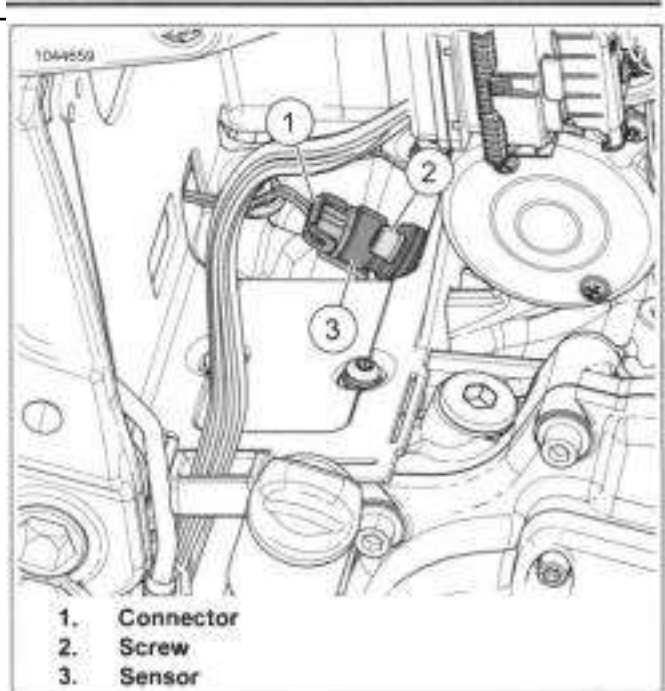

Figure 7-137. Vehicle Speed Sensor
1. See Figure 7-137. Disconnect connector (1).
- a. Remove screw (2).
- b. Remove VSS (3).
1. See Figure 7-137. Install VSS.
- a. Install VSS (3).
- b. Install screw (2). Tighten.